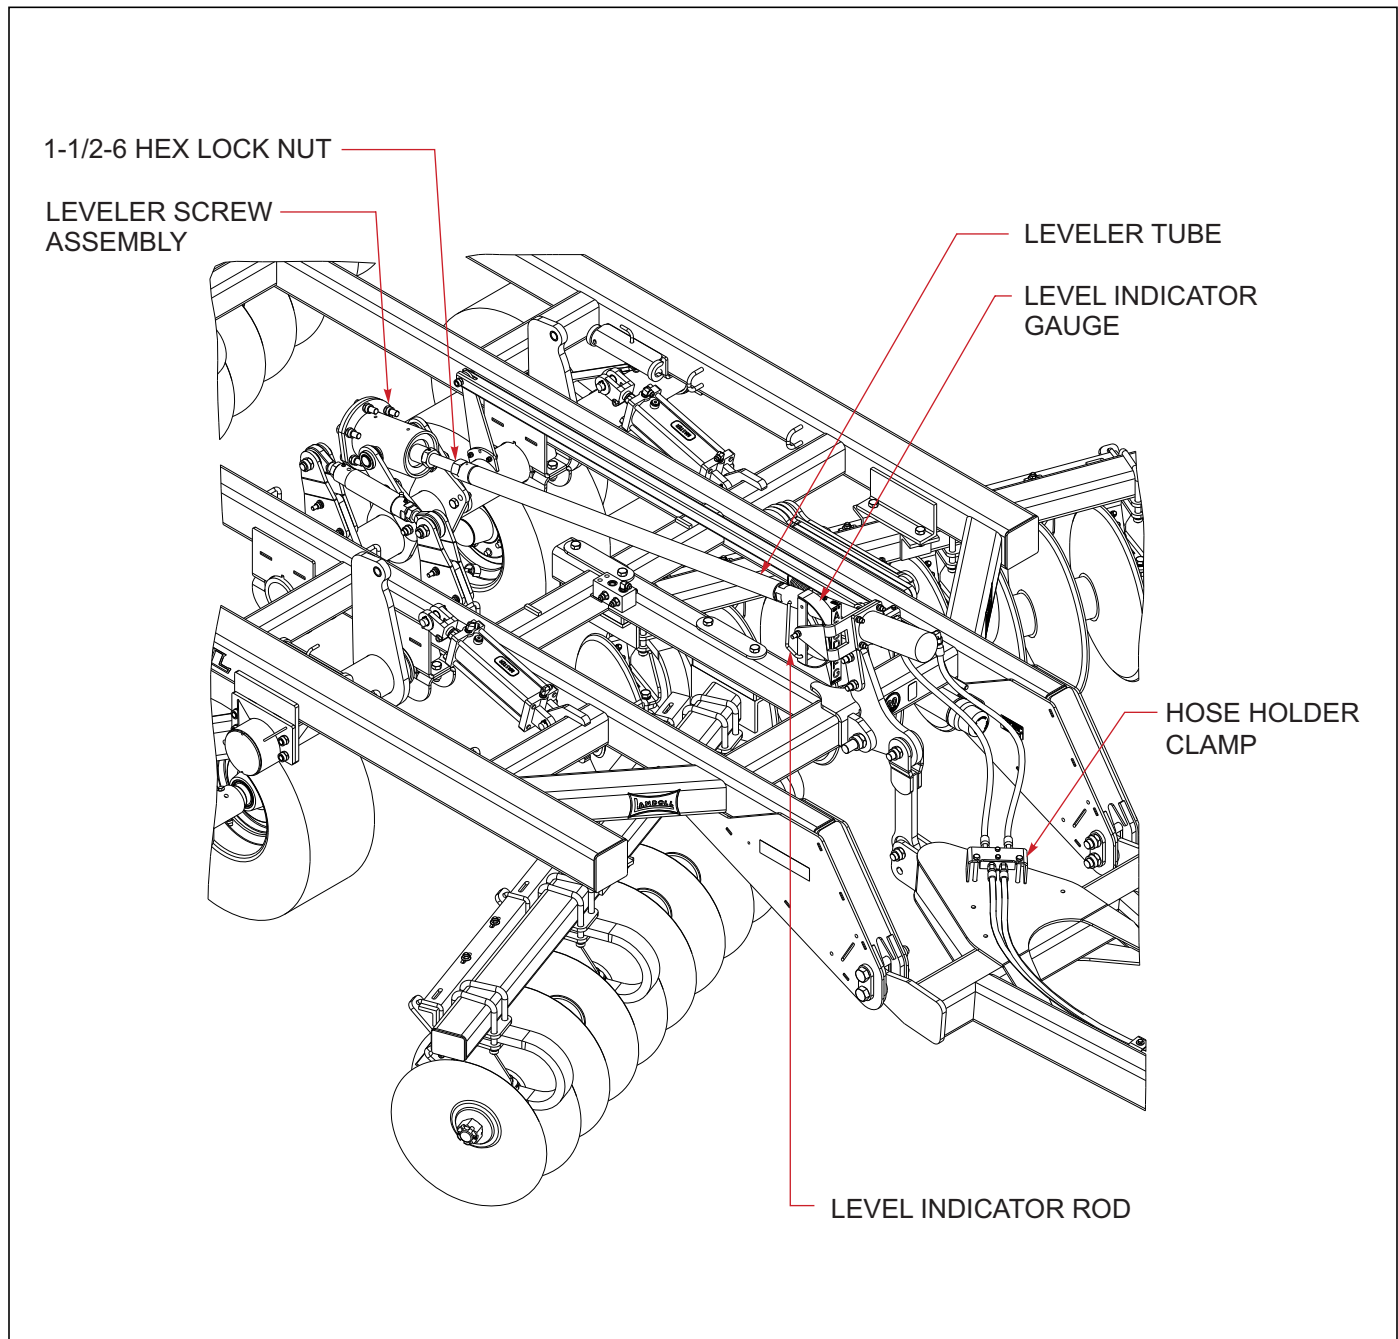

Figure 4-8: Hydraulic Leveler Gauge Adjustment
2. Remove the level indicator rod from the leveler tube (See Figure 4-8.)